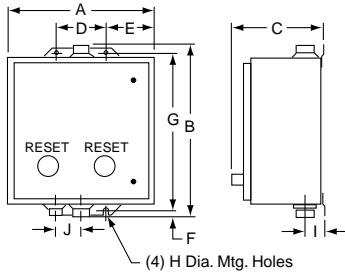

Figure 1: NEMA Type 1, 4, and 12 Enclosures
**Table 16.31: NEMA Type 1 Enclosure (see Figure 1)**
**Table 16.32: NEMA Type 4 Enclosure (see Figure 1)**
**Table 16.33: NEMA Type 12/3R Enclosure (see Figure 1)**